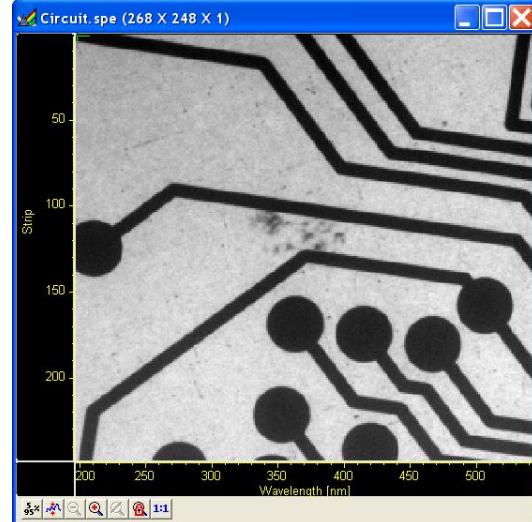

Figure 93. Circuit.spe Image
- From the data directory select the image file called CIRCUIT.SPE. Click on the **OK** button. A window of the appropriate dimensions should appear immediately. The image display (Figure 93) may take a few seconds, depending on the speed of the computer.
- Click on (5%-95%) (located beneath the displayed image as shown in Figure 93). You will observe a moderate brightening of the image as it autoscales on the central 90% of the image histogram. The brightest (pixels with high dark charge) and the darkest pixels (pixels with low response) are ignored.